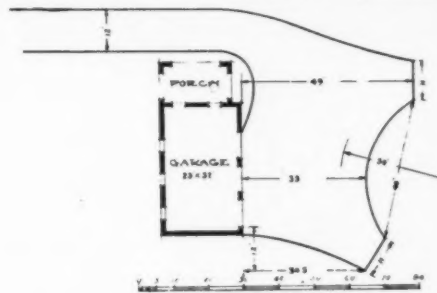

FIGURE 17.
3. The depth of the "Y" turn measured perpendicularly to the face of the garage, and directly opposite the doors, should not be less than 33 to 35 ft. for large machines. (See Fig. 17.) Outward swinging doors call for an increase in this dimension equal to the width of the door itself.